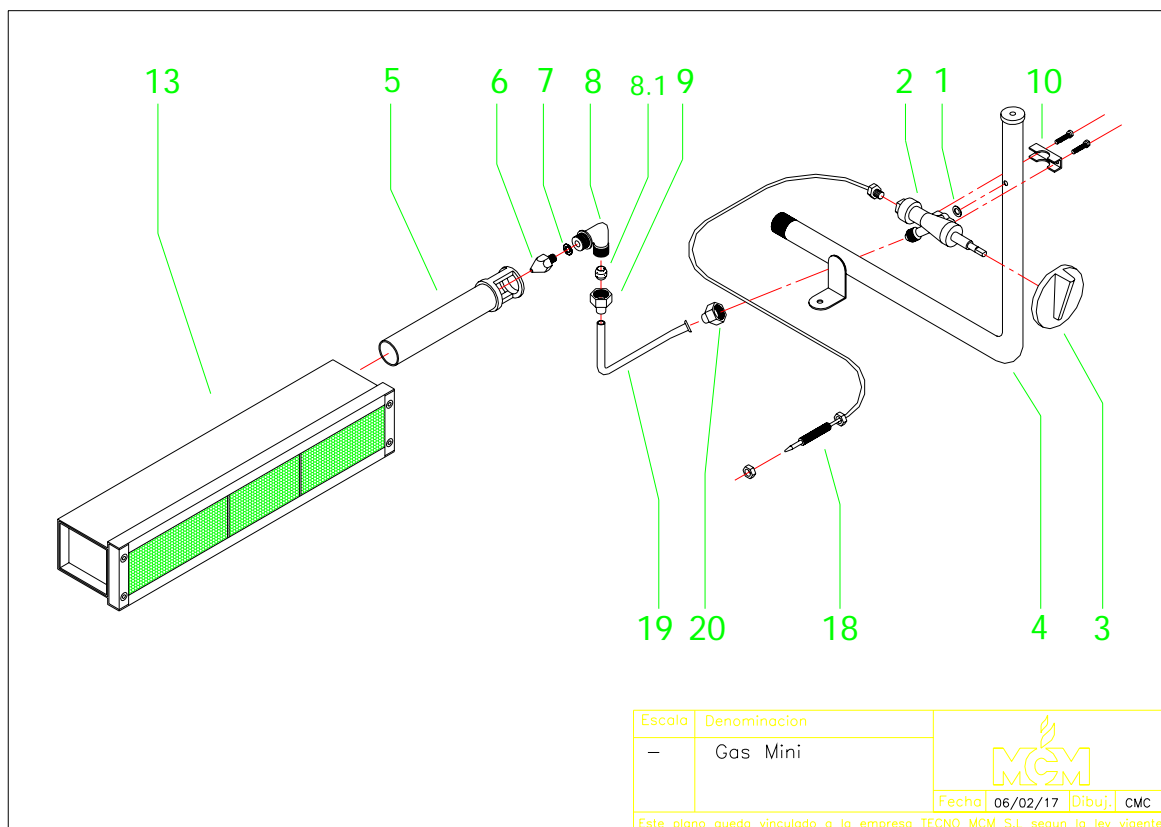

Fig 11
- e) Remove the tube (12) and thermocouple (13) (See Fig. 11) corresponding to the valve of the burner you wish to change by loosening the nuts (11) and (14).
- f) Pull the elbow piece (8) outwards to remove the Venturi burner. Totally loosen the screws fastening the burner (16) to its support (17).